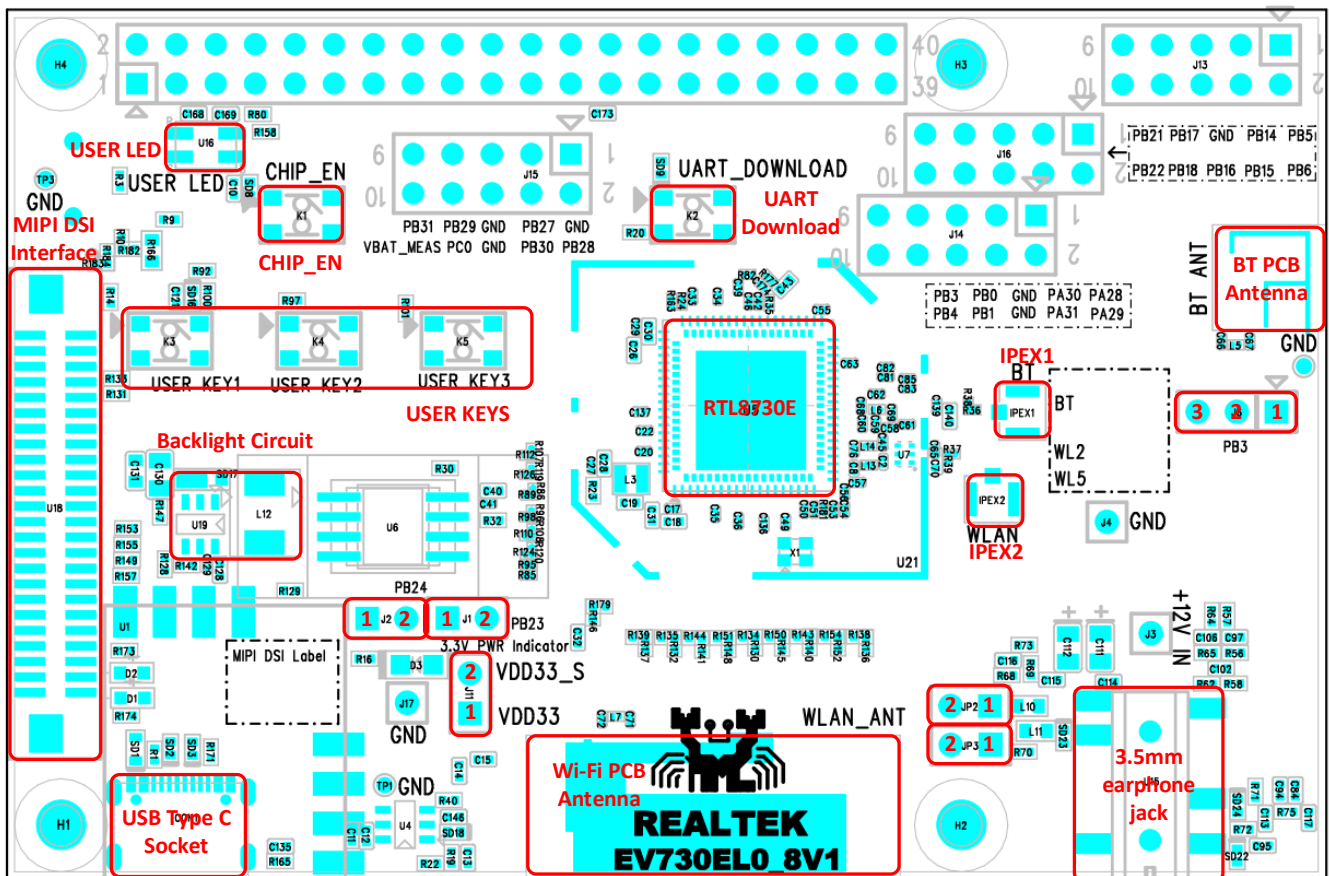

Figure 3-1 8730ELH EVB – top layer
- Find the location of the pin according to Figure 3-1 and Table 3-1.
The top layer of the EVB is illustrated in Figure 3-1.
Multiple connectors are provided on the EVB for the expansion of different functions of the chip. The positions of different connectors on the EVB are shown in the Figure 3-1 and Figure 3-2.
Only connectors with numbers and the names described next to them can be configured in the Figure 3-1 错误!未找到引用源。 . Other connectors with no specific purpose are used for internal test or other reserved functions. Please do not configure them arbitrarily to avoid affecting the normal operation of the chip.
The pin multiplexing and description of each jumper is listed in Table 3-1. All designators and pins shown in the following table can be located in Figure 3-1.